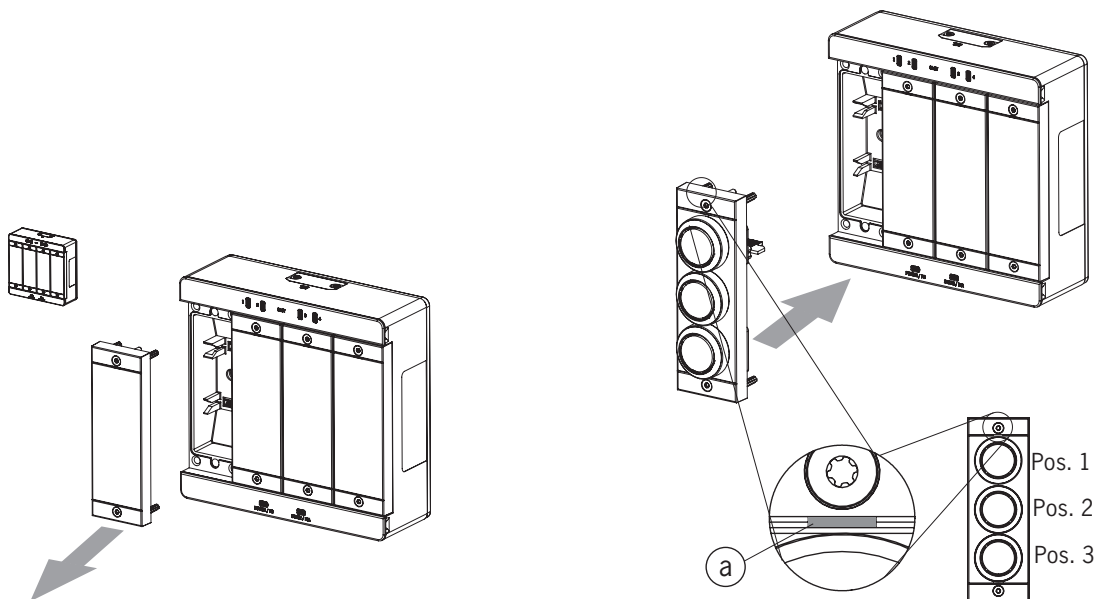

Figure 2: Mounting submodule
- › Pay attention to the alignment of the submodule. See marking (a) in *Figure 2: Mounting submodule*. Submodules can also be installed rotated by 180°. The marking (a) always indicates the first position to be equipped. This means the position of pushbutton S1 in the example below.